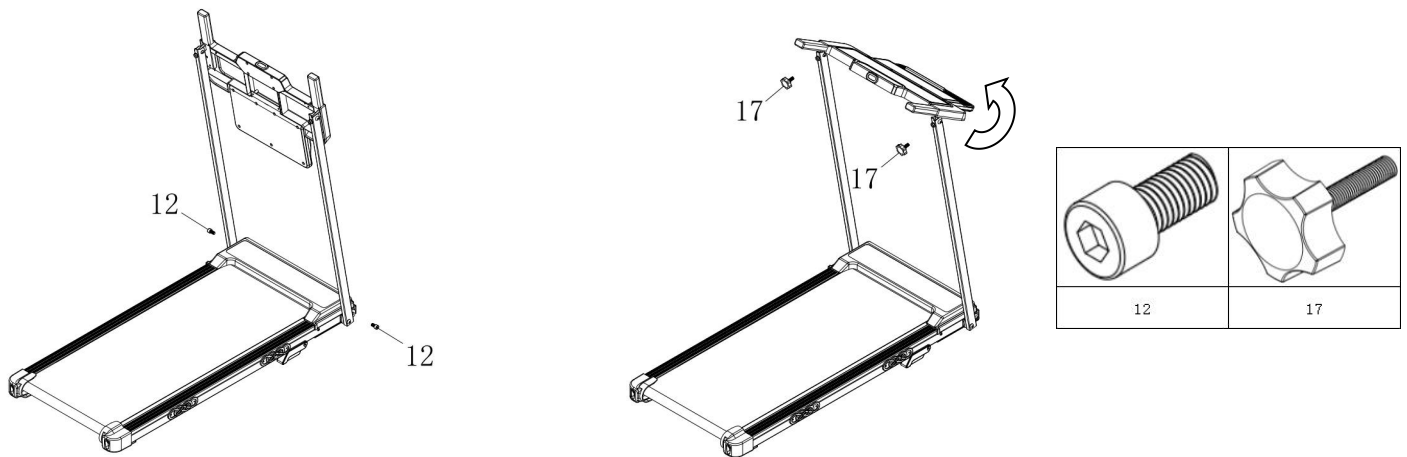

Figure 3    Figure 4
Step 3: As shown in (Figure 3): Fasten the upright column using the (12) M8x16 screws.